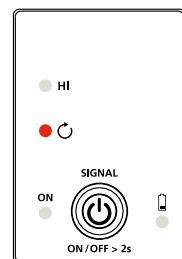

Figure 4.12b: Transmitter indicator showing signal in Loop mode
2. Short press ON/OFF button to select the Loop mode (LOOP red LED will be ON). The clamp mode generates a boosted 6 kHz signal in order to provide superior tracing results. The LED on the Transmitter should appear as in Figure 4.12b.